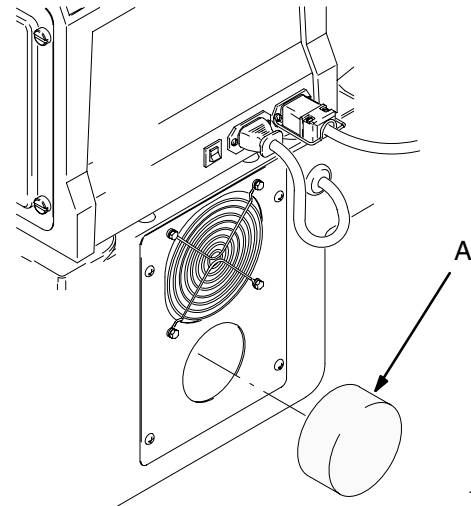

Fig. 8
2. Pinch filter (A) and remove by hand. See Fig. 8.